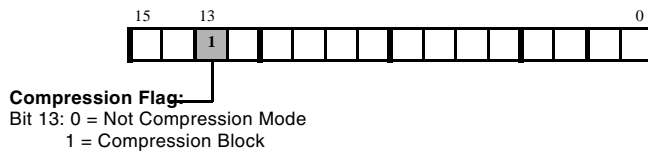

Figure 3-26. Flag Word of Compressed Block Header
The last 16 bits of the compressed header is the flag word. The only valid compression flag assignments are shown in Figure 3-26.
3. (A) The initialization code scans the header for any compressed streams (see the compression flag structure in Figure 3-26). The code decompresses the streams to the decompression window (in parts) and runs the initialization kernel on the decompressed data.